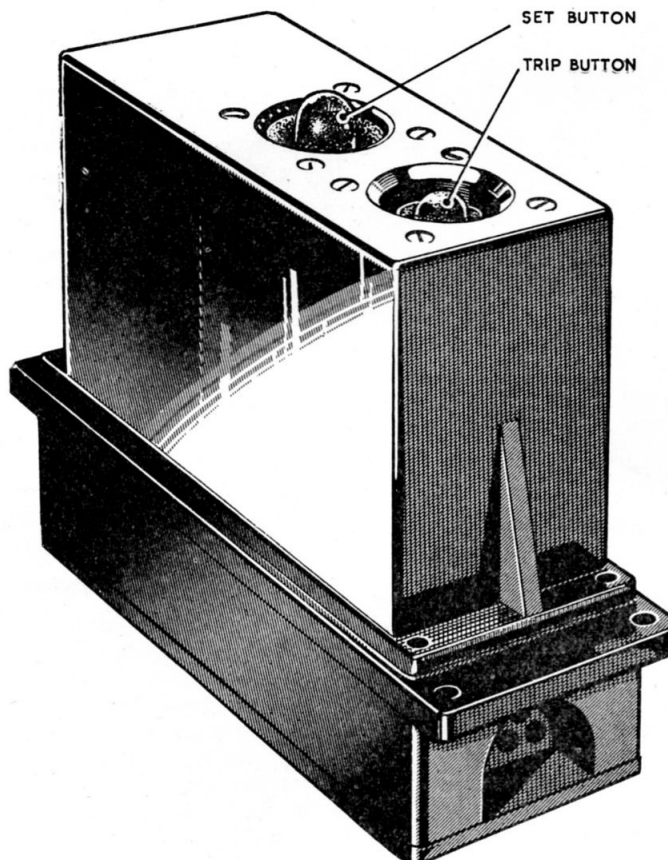

Fig. 1. External view of switch
2. The Type A reset relay switch (fig. 1) is mounted on a moulded base and is contained within a moulded cover. The terminals of the unit are contained within a recess in the base. The top and base covers seat on rubber seals. The press-buttons for manual operation are covered by rubber hoods, which together with the cover seals render the unit waterproof.